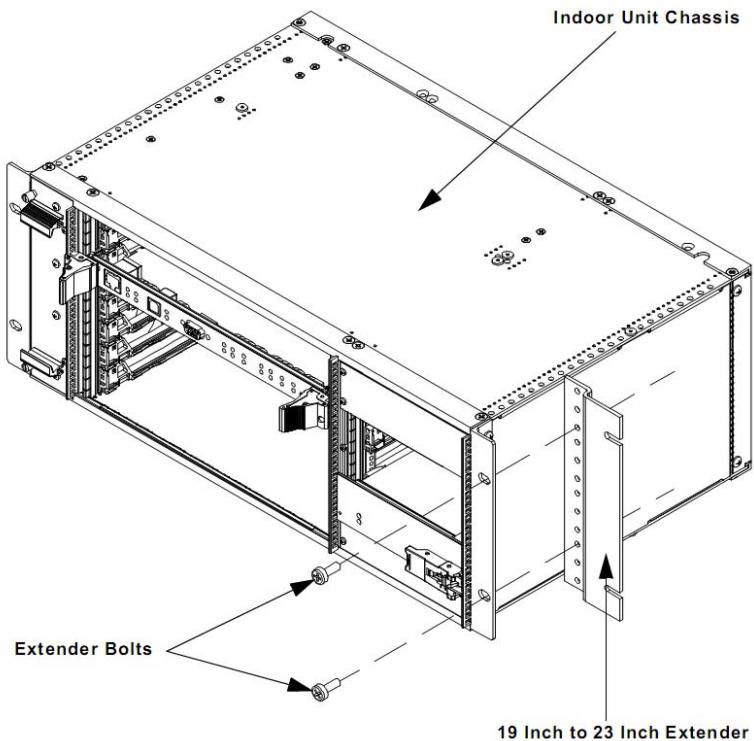

Figure 0-1 Attaching Extender Plate
- 1.3. Slide the indoor unit chassis into the desired shelf in the appropriate rack or cabinet, as shown in Figure 0-1 Daisy Chain Configuration below.